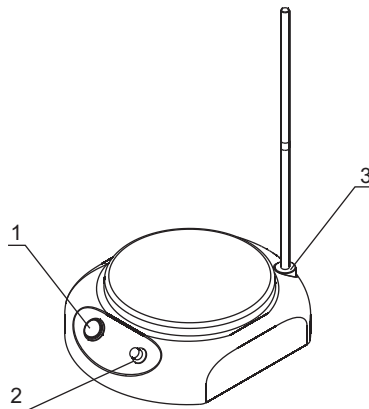

fig.1
Remove the screw on one of the fixing sockets at the stirrer back (fig.1/3) and retain for future. Screw the part of the stand with the counter-nut into the fixing socket and secure with the counter-nut. Screw in the second part of the stand into the attached first part.
- 4.1.4. Turn ON the power switch (fig.1/1).
- 4.2.1. Slowly turning the SPEED knob clockwise (fig.1/2) adjust the necessary speed.